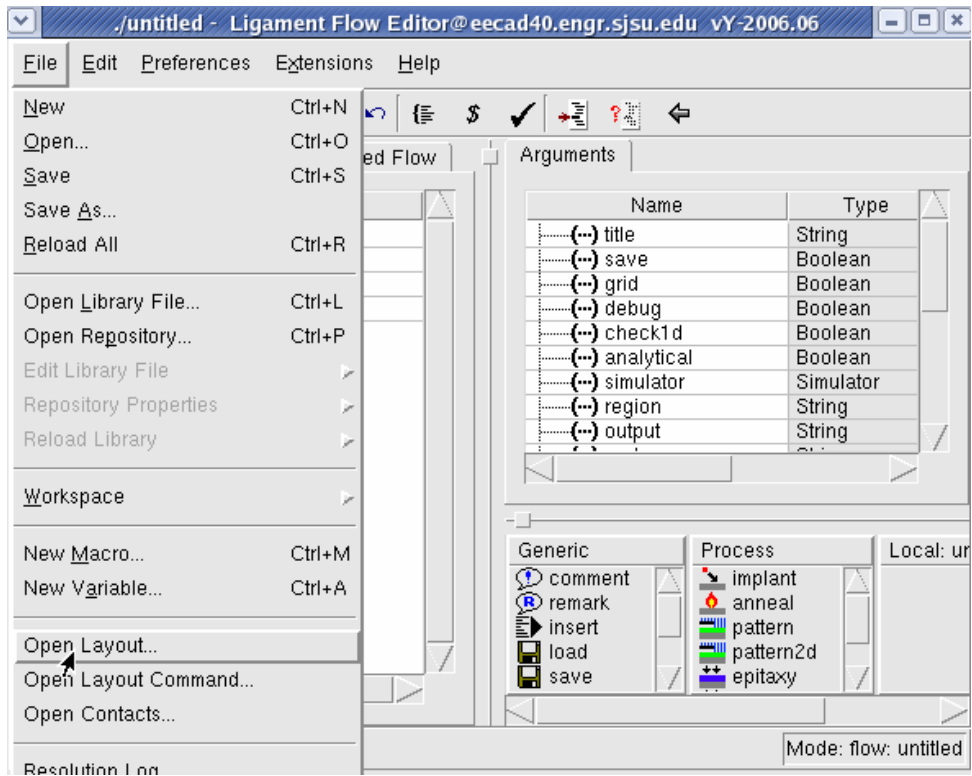
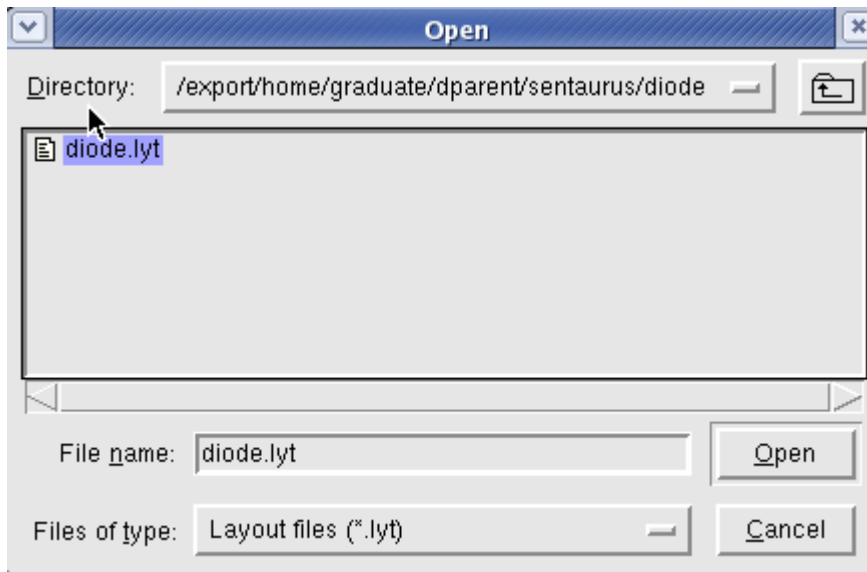

Figure 38: Opening the Layout view for the mask pattern steps.
Figure 39: Selecting the proper layout file.
9. Read in the mask data by going to File.. Open Layout (Figure 38). Select the file you created in the previous section (Figure 39).